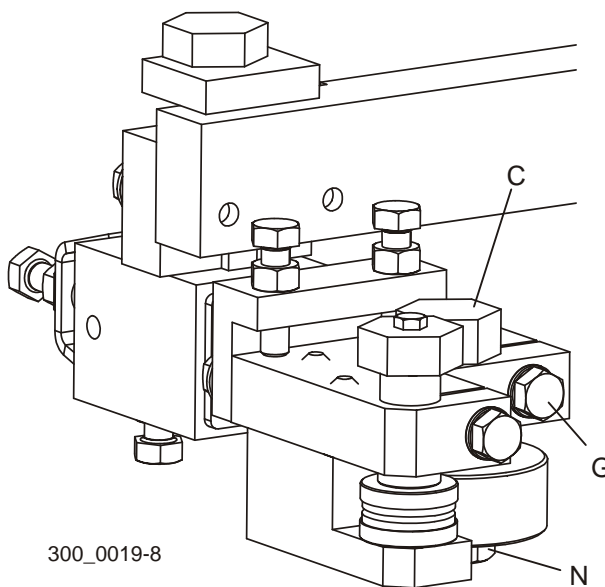

FIG. 7-18
3. Turn bolt (A) clockwise on each blade guide assembly until the bottom guide disks touch the blade, but do not deflect it upward.
4. Turn bolt (F) clockwise to adjust the top guide disk on each blade guide assembly back down until it touches the blade, then back up 1/4 - 1/2 turn. Tighten clamp bolt (H).
See Figure 7-18. To adjust, loosen clamp bolt (G) and turn bolt (C) to move the roller toward or away from blade. Raise or lower the roller to avoid the blade contacting an existing groove in the roller. Retighten clamp bolt (G). **NOTE:** If the roller is completely grooved on one end, remove bolt (N) and flip the roller to use the other end. If both ends are completely grooved, replace the roller.